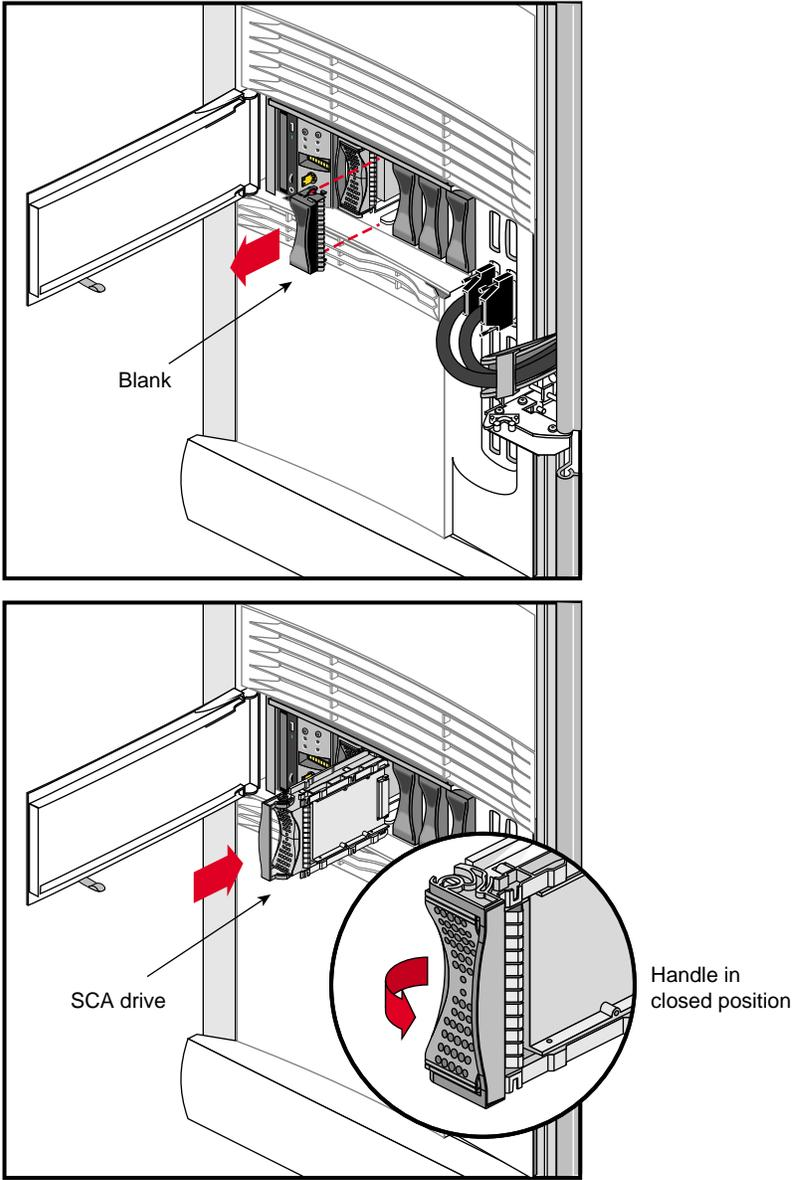

Figure 5-2 Installing an SCA Drive
All Origin2000 rackmount systems are configured with one or two internal SCSI drive bays using single-attachment connector (SCA) drives (see Figure 5-2). These drives must all be single-ended, Ultra SCSI. These Ultra SCSI drives are capable of transmitting up to 40 MB/sec. In addition, the rackmount can house from one to four optional drive box enclosures (Origin Vault) to support other types of drives such as differential or single-ended SCSI drives (see Chapter 2, "Chassis Tour," for additional information).
The Origin2000 uses an SCA sled assembly for mounting into the drive bay. Disk drive modules are aligned vertically at the front of the chassis, as shown in Figure 5-2. Note that the leftmost disk drive—the system drive—is oriented differently from the others.
1. If necessary, snap the handle to the open position so that it is centered, as shown in Figure 5-2.
3. Align the new disk module with the drive guide, as shown in Figure 5-2.
5. When the disk module is all the way in, snap the handle right to the closed position, as shown in Figure 5-2. In the case of the system disk module, which is upside down relative to the other drives, snap the handle left.